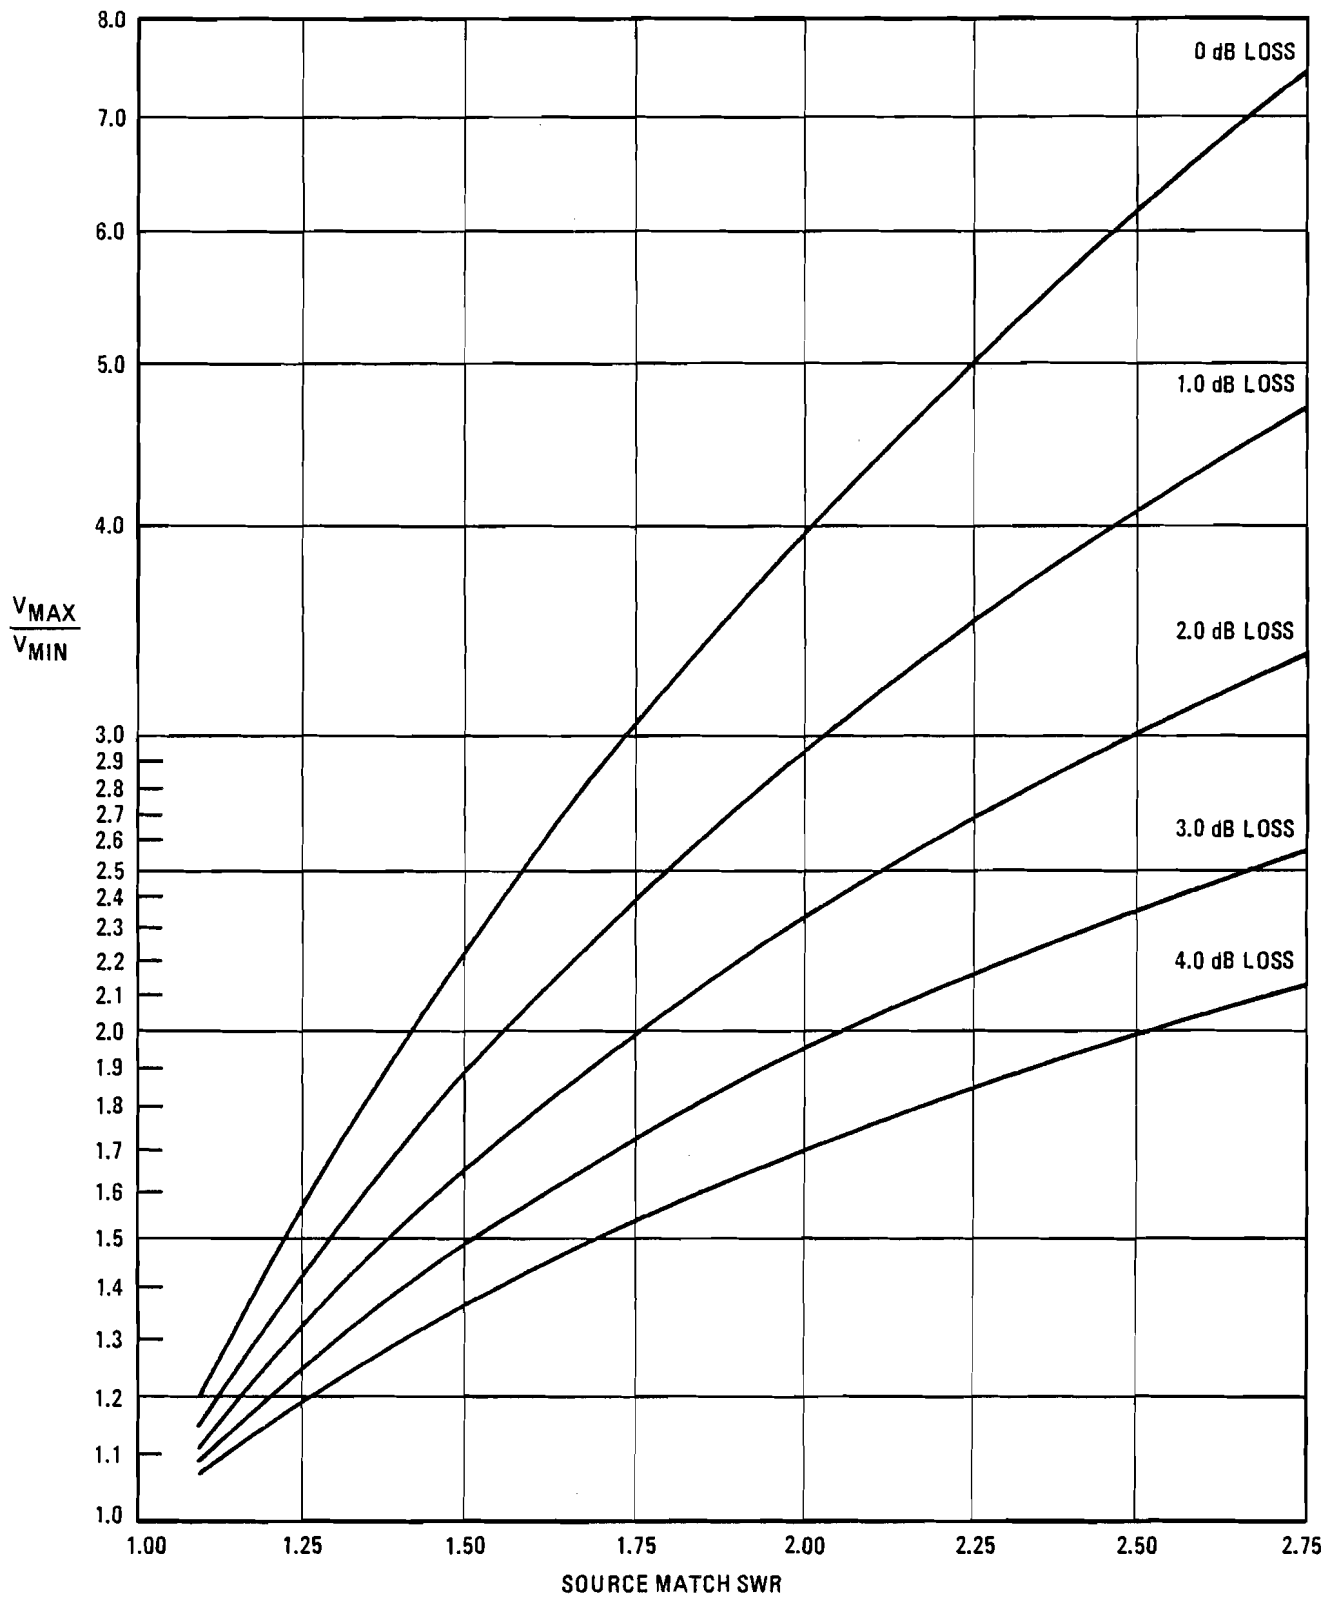

Figure 4-13. Conversion of Oscilloscope Trace to Source Match SWR
6. Convert V MAX/V MIN ratio noted in step 5 into source match SWR, using Figure 4-13 and the cable loss calculated in step 5. The SWR should be less than noted on the performance test card step 6.
11. Convert greatest V MAX/V MIN ratio noted in step 10 into source match SWR using Figure 4-13 on the 0 dB loss line. The SWR should be less than noted on the performance test record card step 11.